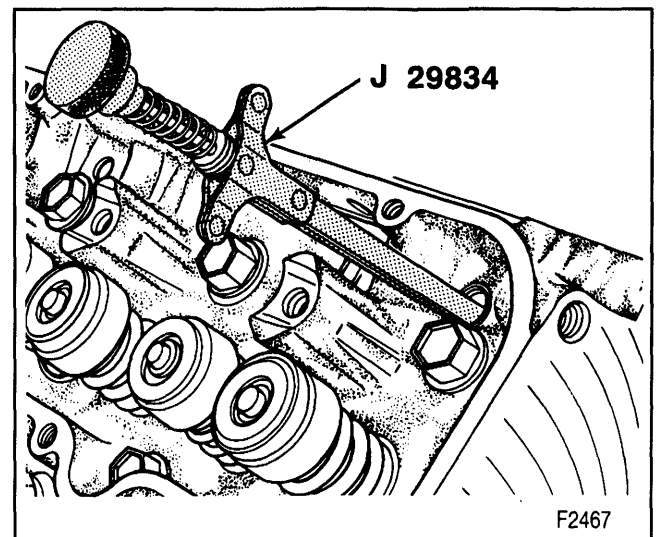

Figure 14—Removing the Hydraulic Lifter
5. Hydraulic lifters, through the access hole in the cylinder head. Use J 29834 (figure 14) and a magnet. Place the lifters in an organizer rack. The lifters must be installed in the same bores from which they were removed.